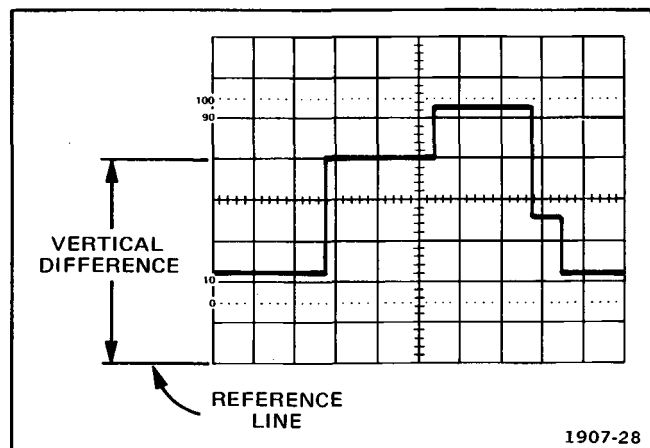

Fig. 2-6. Instantaneous voltage measurement.
4. Set the AC-GND-DC switch to GND. Adjust the trace to some reference line (see Fig. 2-6).
The vertical difference is 5 divisions (see Fig. 2-6). The VOLTS/DIV switch is set to 10 mV. The waveform appears above the reference line.